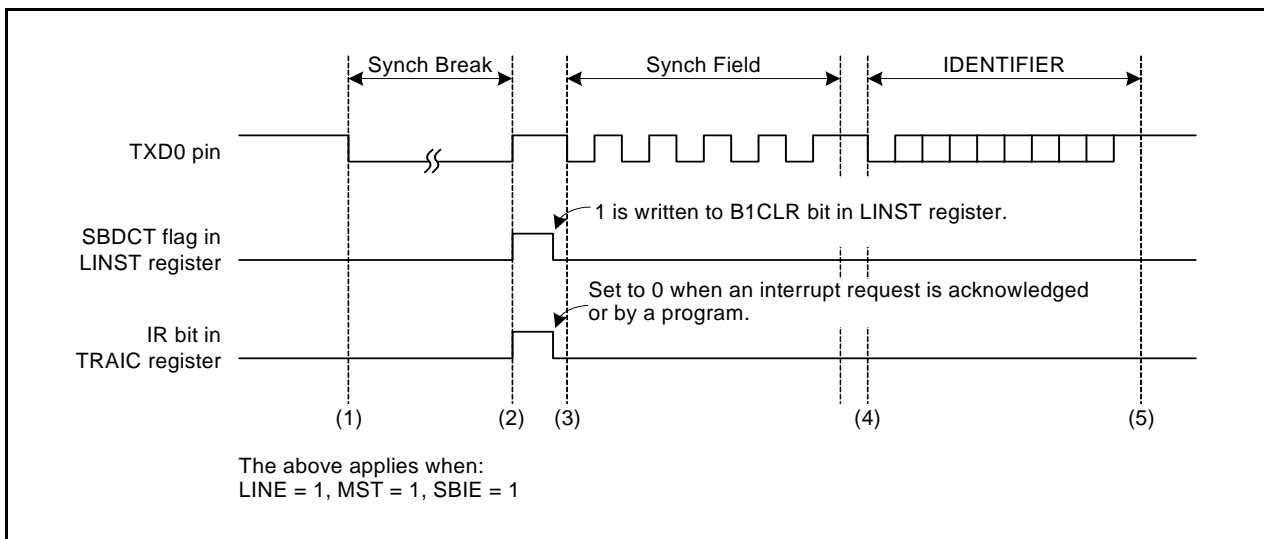
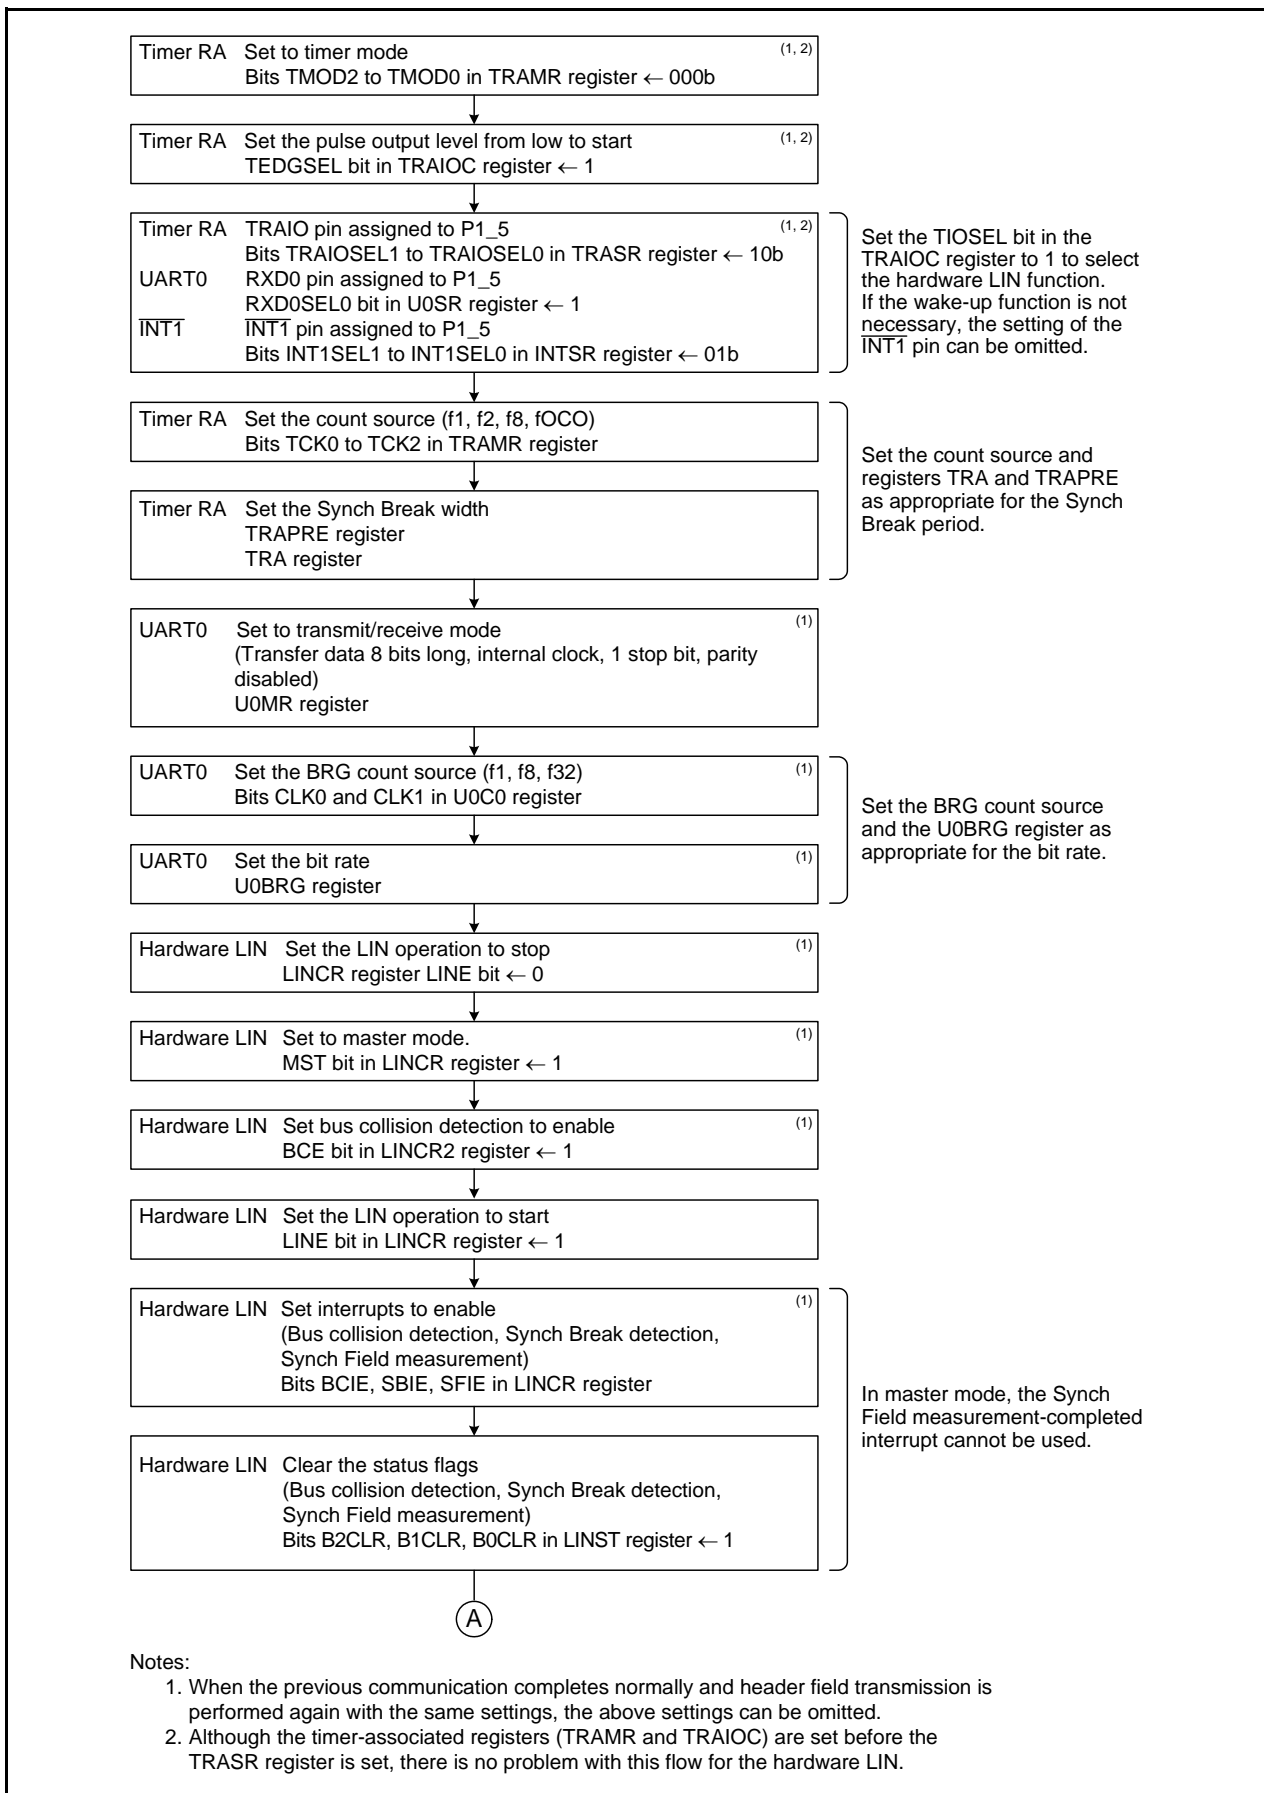
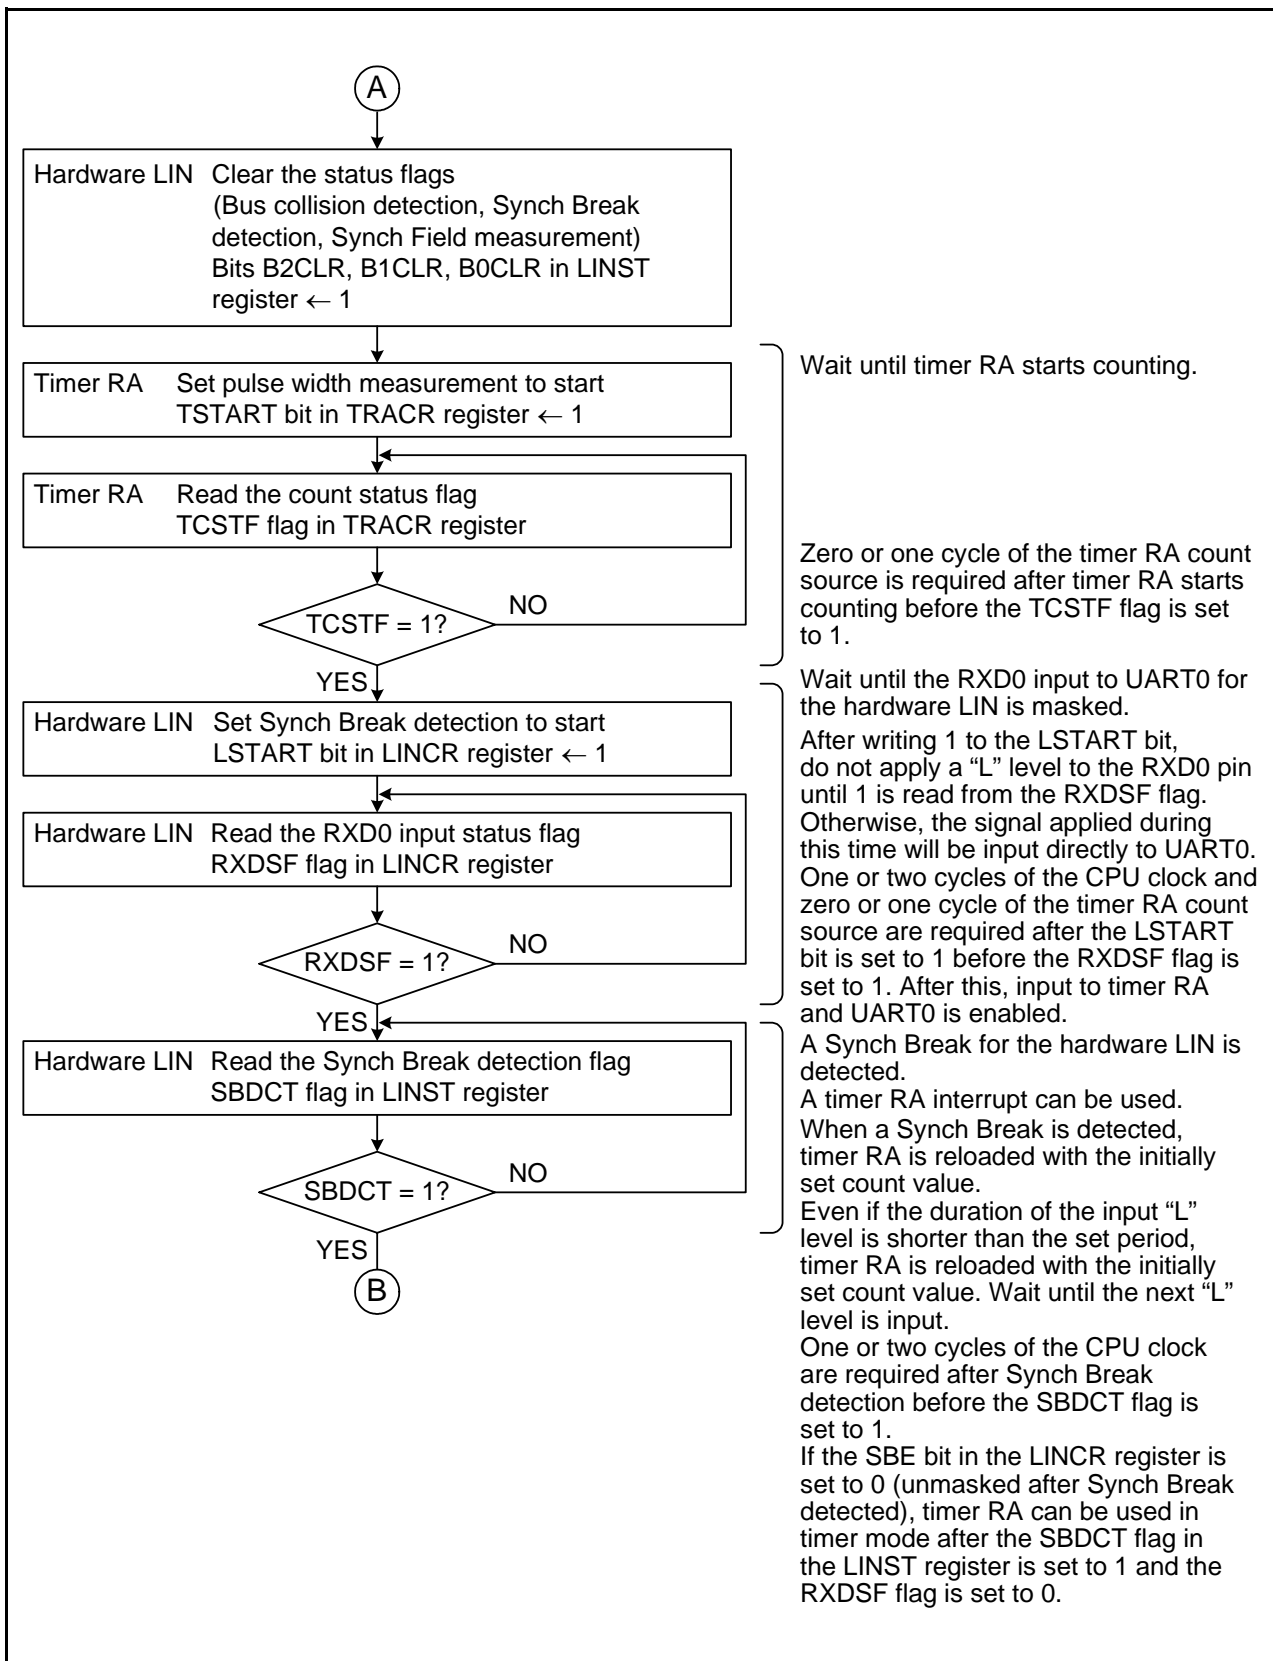

Figure 24.2 Operating Example during Header Field Transmission
Figure 24.3 Header Field Transmission Flowchart Example (1)
Figure 24.7 Header Field Reception Flowchart Example (2)
3. Inputs to timer RA and UART0 are disabled immediately after the LINE bit is set to 1 (LIN operation starts). (Refer to **Figure 24.3 Header Field Transmission Flowchart Example (1)** and **Figure 24.7 Header Field Reception Flowchart Example (2)**.)
Figure 24.2 shows an Operating Example during Header Field Transmission in master mode. Figures 24.3 and 24.4 show Examples of Header Field Transmission Flowchart.